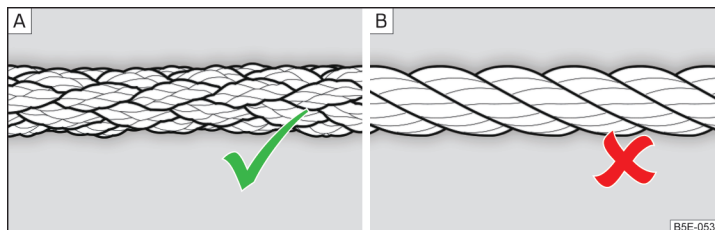

Fig. 219 Braided tow ropes/spiral tow rope
A braided tow rope must be used for towing » Fig. 219- **A**.
- Spiral tow ropes must not be used for towing » Fig. 219- B, the towing eye may unscrew out of the vehicle - risk of accident.